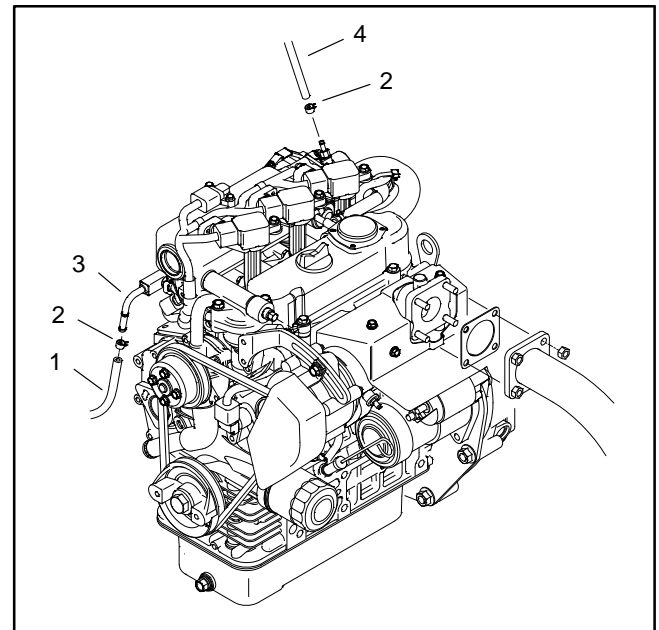

Figure 33
3. Disconnect fuel supply hose from engine fuel rail (Fig. 33).